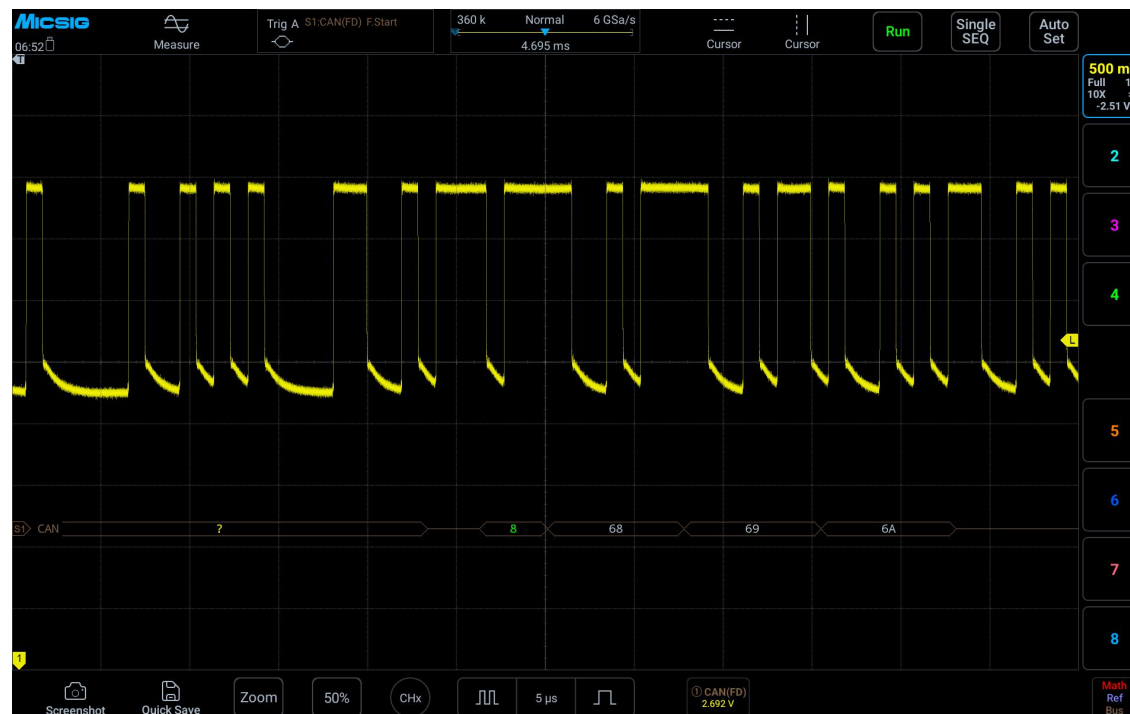

Figure 12-16 CAN bus decode interface
- (3) Open the trigger mode configuration menu and click “Frame Start”;
- (4) Adjust the threshold level according to the signal amplitude; the CAN trigger graphic interface is shown in Figure 12-16: